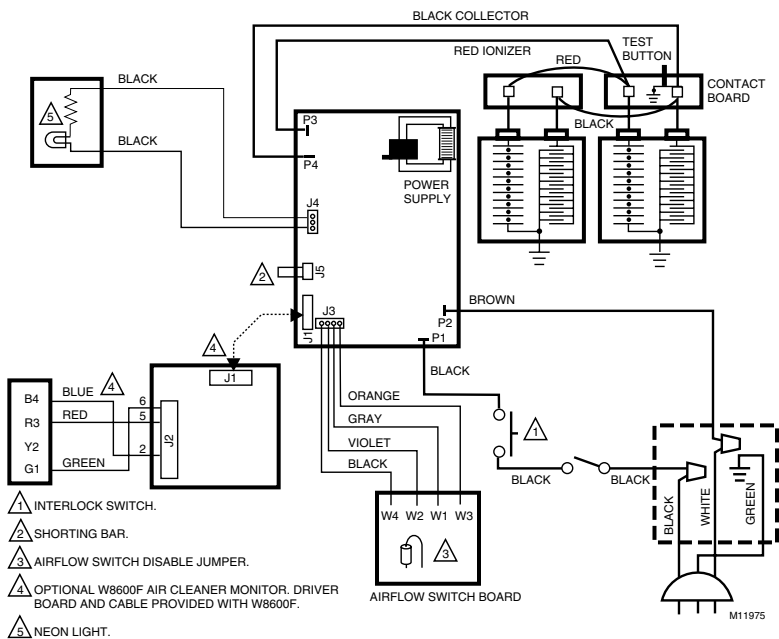

Fig. 9. Internal schematic for F58F with W8600F.
- ☐ Plug the F58F directly into the correct voltage and frequency outlet. See Fig. 9 for internal schematic. The F58F will operate properly at any fan speed on a multispeed or modulated speed system wired with conduit or plugged in.